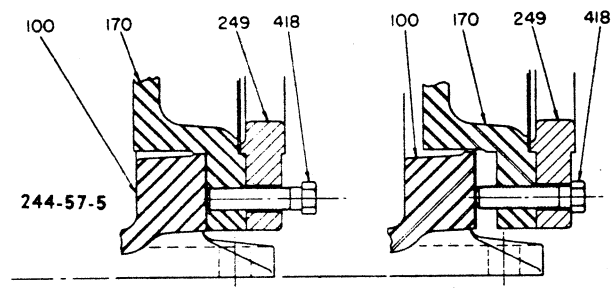

Fig. 16
7. Adjust tension on sling to support the weight of the "pull-out assembly." Complete "pull-out assembly" can be jacked back by tightening the jacking bolts (Fig. 16). Jacking
24. Loosen bearing housing bolts (370C) and jam nuts on bolts (370D). Tighten bolts (370D) until impeller contacts discharge sideplate (170).
27. If casing assembly of casing (100), suction sideplate (176 on Model 3139 only) and suction cover were disassembled proceed as follows:
28. Place suction cover (182) in vertical position, suction flange side down. Using hoist hooked through eye bolts placed in jacking bolt holes, with curved side up, swing suction side plate (176) in position above suction cover (182).
29. Insert gasket (351) in position on suction cover (182).
30. Lower suction sideplate (176) on suction cover (182). Precision machined male and female locks align the two parts. Tapped eye bolt holes in edge of sideplate should be in line with the hand hole.
31. Remove hoist hooks and eye bolts and place eye bolts in tapped holes in edge of suction sideplate (176).
32. Place jacking bolts (418) through suction cover (182) and into suction sideplate. Tighten jacking bolts.
33. Using hoist with sling hooked in eye bolt in suction sideplate or slung around suction cover (182) lift suction cover and sideplate assembly in position in front of casing (100). Insert casing gasket (351) on sideplate flange.
34. Adjust hoist carefully and place suction sideplate in casing until jacking bolts contact casing (see Fig. 16).
35. Insert casing bolts (370B) tightening gradually and evenly while unscrewing jacking bolts. Continue until sideplate flange contacts casing parting flange. (See Fig. 16, page 20.) Adjusting jacking bolts (418) and casing bolts (370B) simultaneously maintains suction cover and sideplate locks in position during assembly.
41. Insert casing bolts (370A) tightening gradually and evenly while unscrewing jacking bolts (418). Continue until sideplate flange contacts casing parting flange. (See Fig. 16, page 20). Adjusting jacking bolts (418) and casing bolts (370A) simultaneously maintains discharge sideplate (170) and bearing frame flange (249) locked in position during assembly.
42. Adjust impeller (101) clearances as directed in Section VI—E, (page 17).
43. Adjust deflector (123) on end of shaft sleeve (126) and tighten dog point set screws which fit drilled hole in sleeve.
44. Slide stuffing box bushing (125) into bottom of stuffing box being sure it is properly seated.